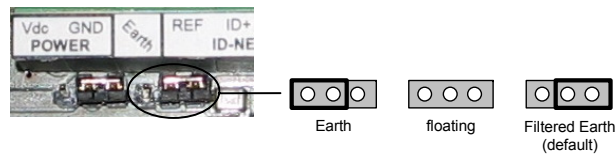

Figure 7 – Shield to Protection Earth Jumper Settings
- Connect the Network Cable Shield (Shield) to Filtered Earth through the jumper (default setting, see Figure 7).